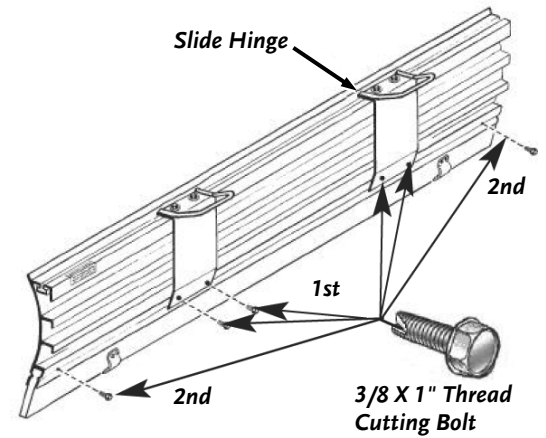

Figure 5
10. First, with rubber centered on blade, use both lower holes in each slide hinge as guide to drill 5/16" holes through first layer of aluminum and partially into rubber. Then turn 3/8" thread cutting bolt into each hole and tighten to secure each hinge (**Figure 5**).